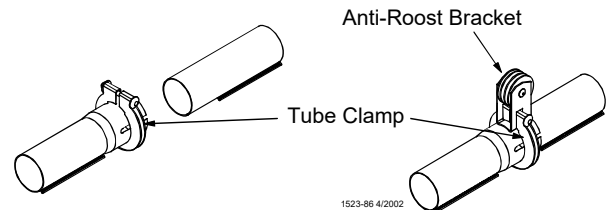

Figure 41. Tube Clamp & Clamp/Anti-Roost Bracket
4. Beginning at the boot place a tube clamp assembly or clamp/anti-roost bracket at each joint. **Figure 41** shows the standard clamp and clamp/anti-roost bracket.